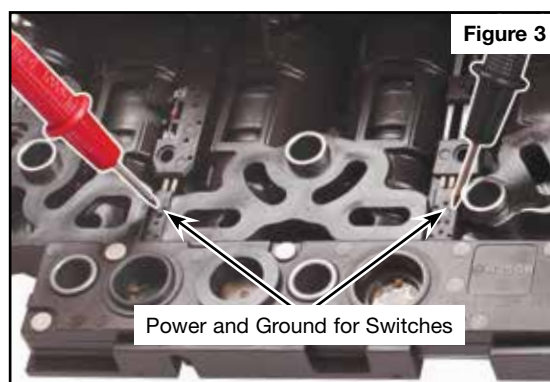

Figure 3
- Testing 6L45–6L90 switches:** Remove gasket plate to expose switch circuits. Ground is outer right leg; place negative ohmmeter lead on this blade. The plastic cover has pin-holes which can be used to rest the tip of the probe (**Figure 3**). Positive lead should be placed on one of the other four legs, which carry power for individual switches. At rest, each switch should read between .5 and 10 ohms. Depressing switch with pencil eraser should result in O.L. reading.